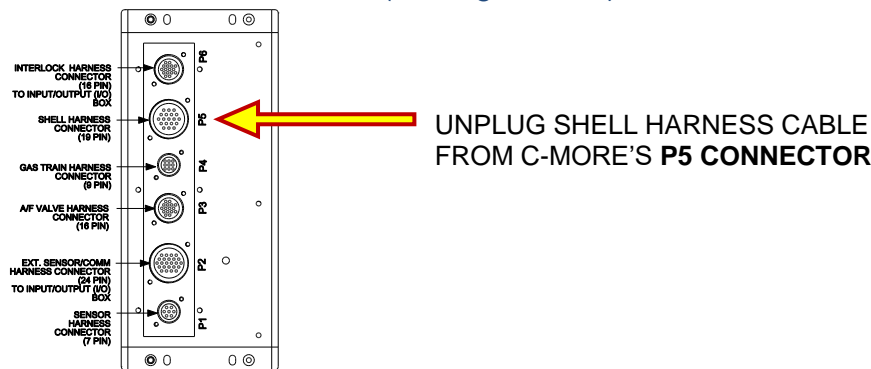

Figure 4-13: Removing Shell Harness Cable from C-More's Rear Panel
2. Remove the Shell Harness Cable (male) connector from the P-5 (female) connector on the rear panel of the C-More Controller (see Figure 4-13).